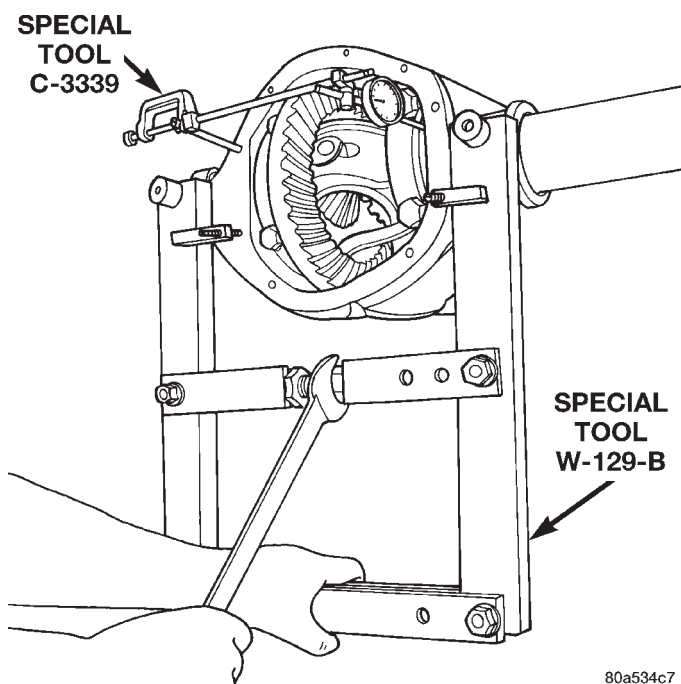

Fig. 30 Spread Axle Housing
(9) Spread the housing enough to remove the differential case from the housing. Measure the distance with the dial indicator (Fig. 30).
(3) Spread the housing enough to install the case in the housing. Measure the distance with the dial indicator (Fig. 30).
(4) Remove the dial indicator.
(5) Install differential case in the housing. Ensure that the differential bearing cups remain in position on the differential bearings and that the preload shims remain between the face of the bearing cup